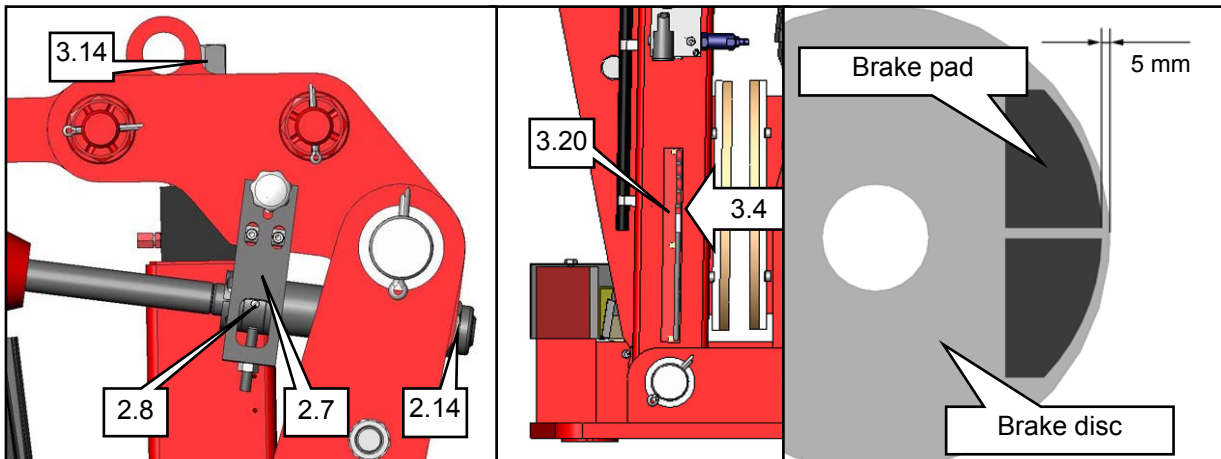

Fig. 1:
- The brake disc's outer diameter must exceed the brake pads 5 mm (Fig. 1 - right)